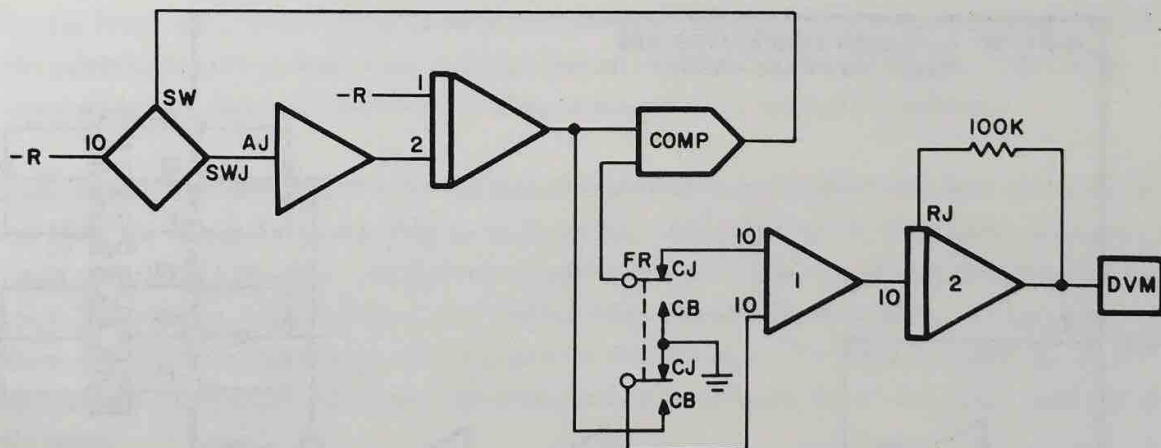

Figure 1.8. Comparator Adjustment Circuit
1. Patch the circuit shown in Figure 1.8 using a function relay (FR) for switching between CJ and CB.